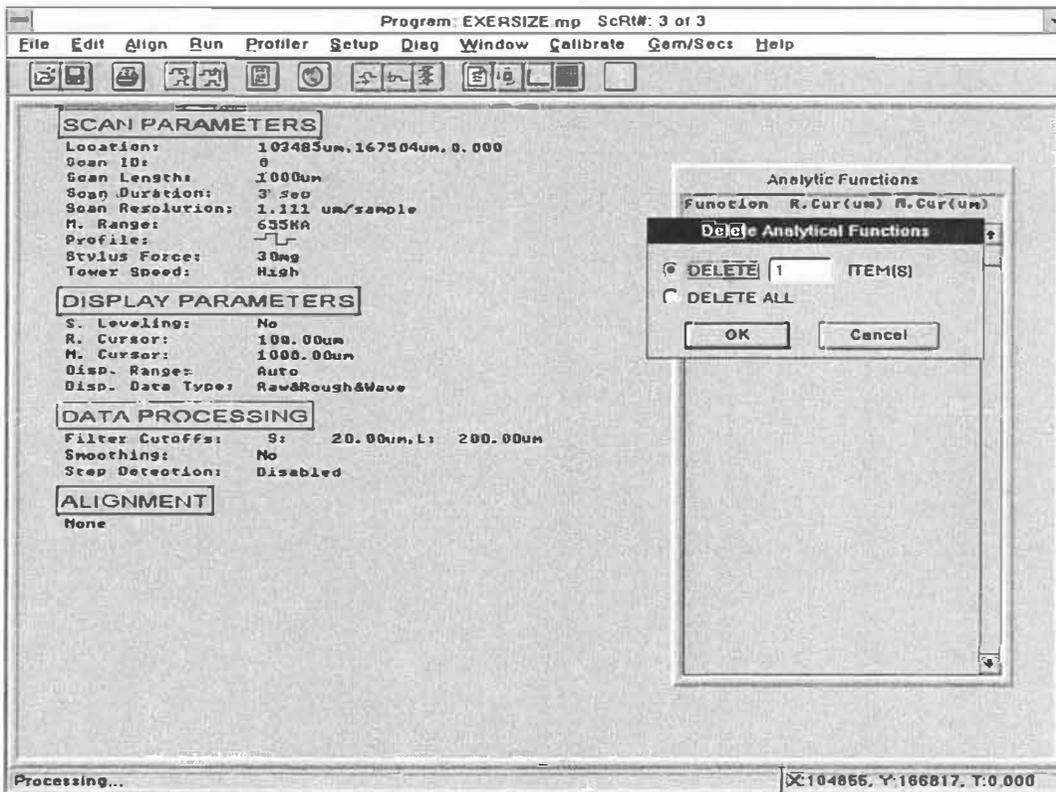

Figure 6-9. Deleting Analytical Functions
2. When the default Scan Routine is used, the raw profile data is entered as the Display Data Type parameter. For the purpose of this exercise all three data types will be displayed. The boxes containing the data type selections act as a toggle for entering and deleting the selections. Click-on the boxes labeled "Roughness" and "Waviness" to enter all three data types into the scan routine (see Figure 6-9).